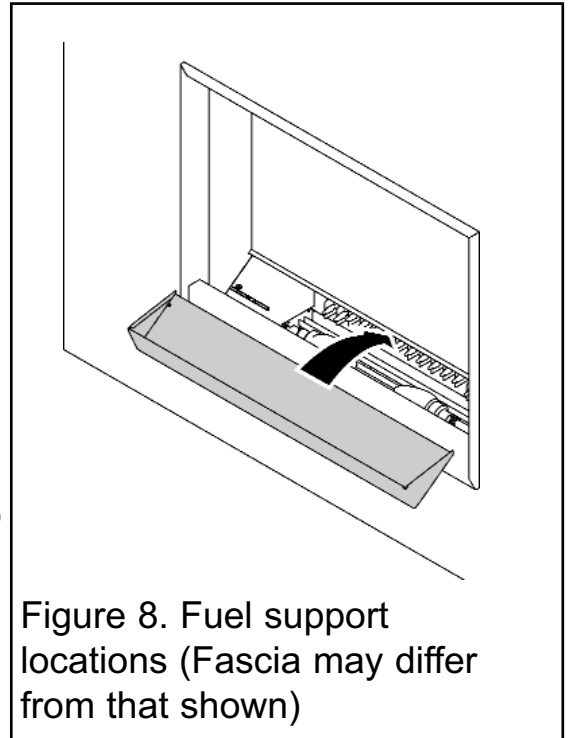

Figure 8. Fuel support locations (Fascia may differ from that shown)
1. Locate the fuel support as in figure 8.